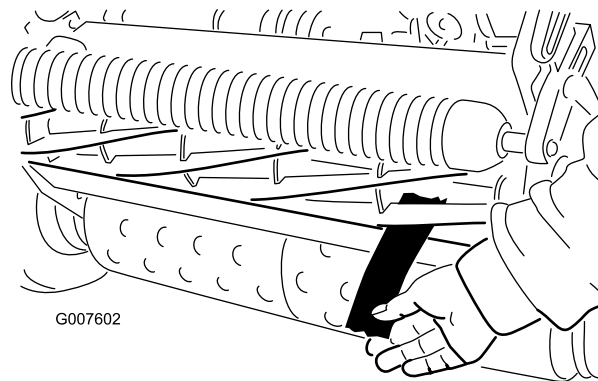

Figure 40
4. On one end of the front side of the reel, insert a long strip of newspaper between the reel and bedknife (Figure 40). While slowly rotating the reel forward,
6. After the adjustment is accomplished, check to see if the reel can pinch paper when inserted from the front and cut paper when inserted at a right angle to the bedknife (Figure 40). It should be possible to cut paper with minimum contact between the bedknife and the reel blades. Should excessive reel drag be evident (more than 7 inch-lb (0.79 N-m), either backlap or grind the cutting unit to achieve the sharp edges needed for precision cutting; refer to the Toro reel sharpening manual.